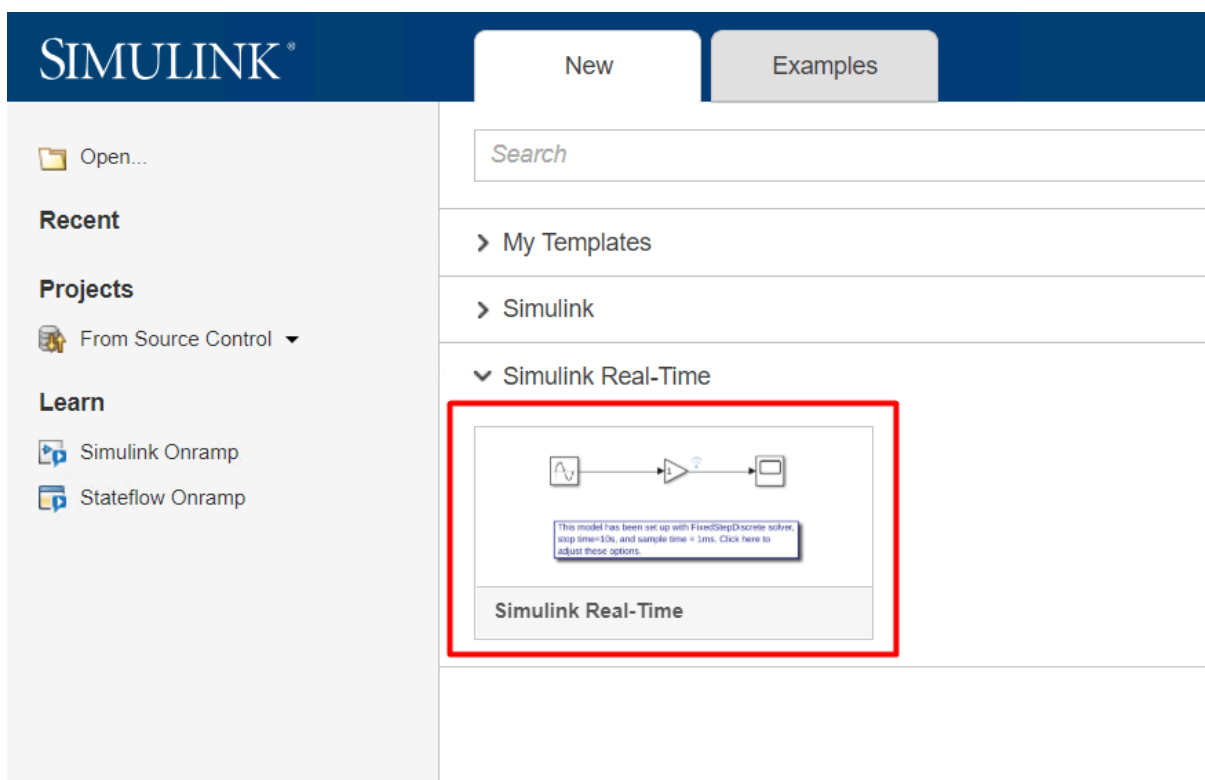

Figure 13.88: Create a Simulink model.
2. (Figure 13.88) Create a new Simulink model using the blank model template.